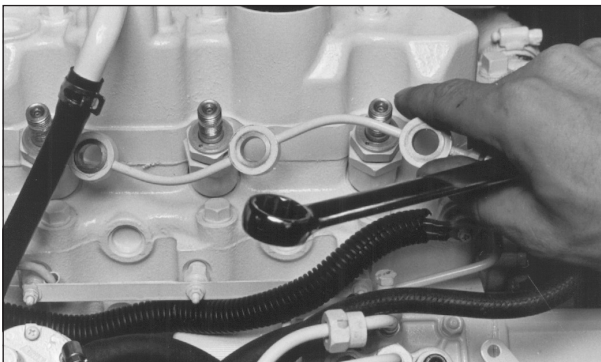

Figure 13: Remove return line.
- c. Remove delivery lines by disconnecting from injectors and injection pump (Figure 13). Remove all lines as an assembly; do not remove the spacers. Cover the ends of the lines, the injector inlets and injection pump outlets to keep dirt out.